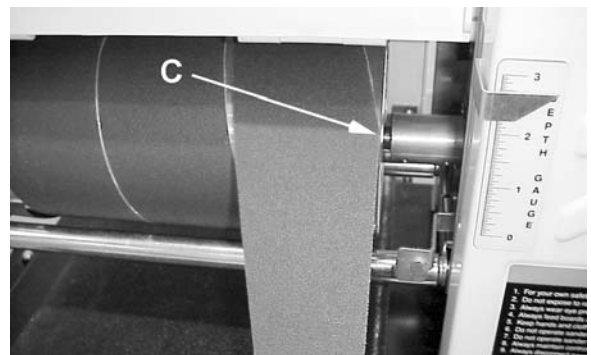

Figure 11
6. Mark the trailing end of the strip where it crosses the inboard end of drum (C, Fig. 11).